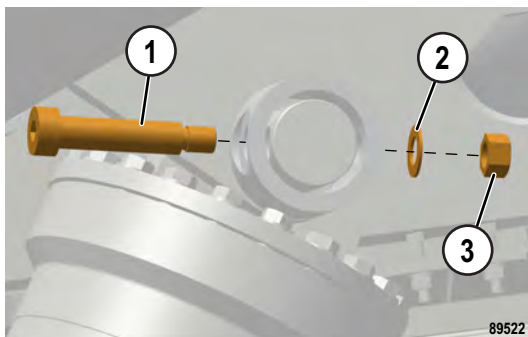

FIGURE 50-43. SHOULDER BOLT REMOVAL
8. At the hoist cylinder upper mount, remove nut (3, Figure 50-43), flat washer (2) and shoulder bolt (1).